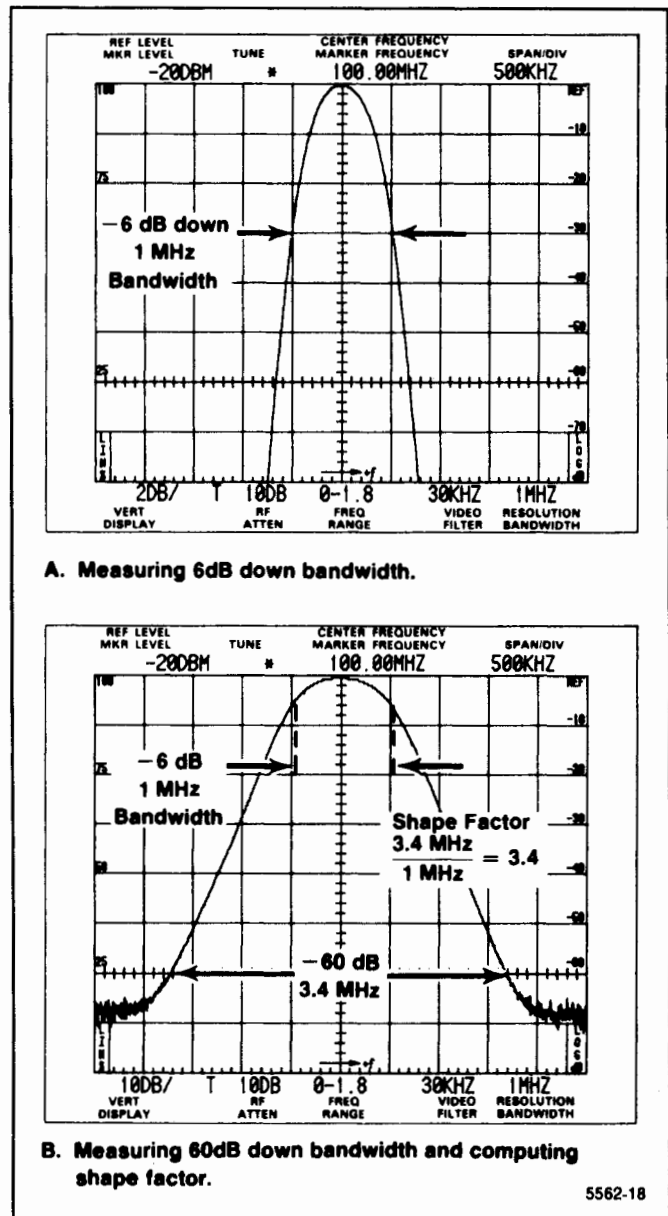

Figure 4-8. Typical display for measuring bandwidth and shape factor.
d. Check that the shape factor is 7.5:1 or less. The shape factor is the ratio of -60 dB/-6 dB bandwidths (see Figure 4-8).